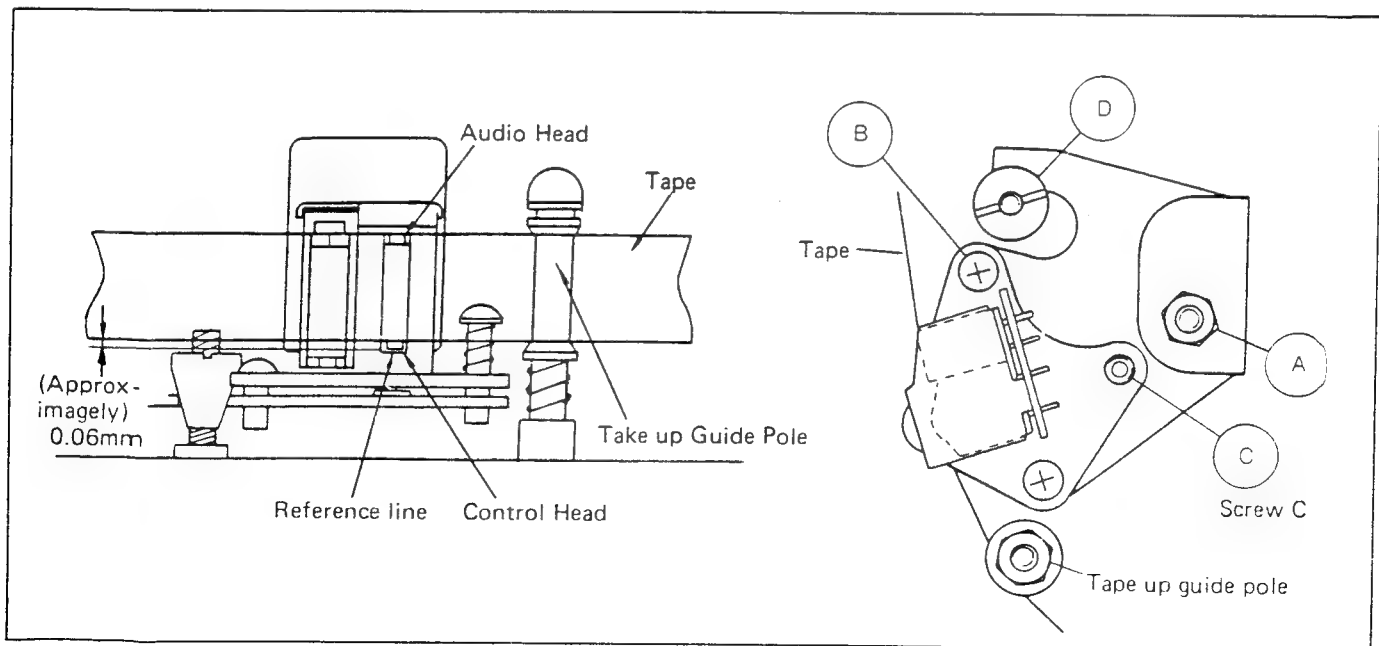

Fig. 4-17 A/C Head Adjustment
6. Check that smooth tape transportation at the take-up guide pole. Especially tape separate and wrinkling. If these problem occur Pre-adjust (A) and (C). (Fig.4-17)
5. Adjust screw ① to obtain maximum FM output level. (Fig. 4-17,4-19)